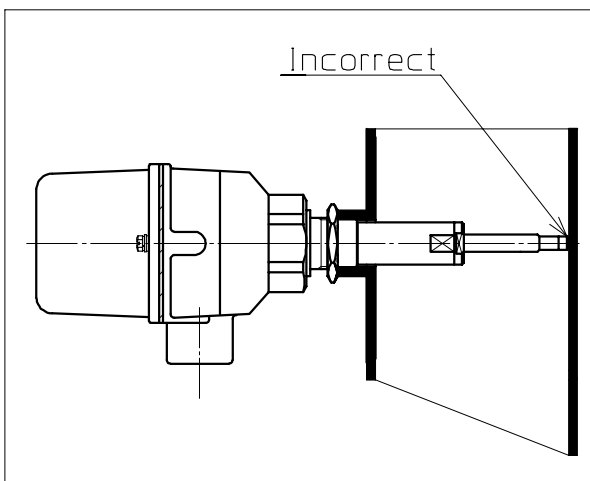

Fig. 4-6
- (7) When used as a low level control, install the guard above the detection rod as bridge or overload is anticipated.
- (8) The detection rod shall not contact with bin wall. The detection rod will not vibrate despite there aren't any measuring materials. [See Fig. 4-6]